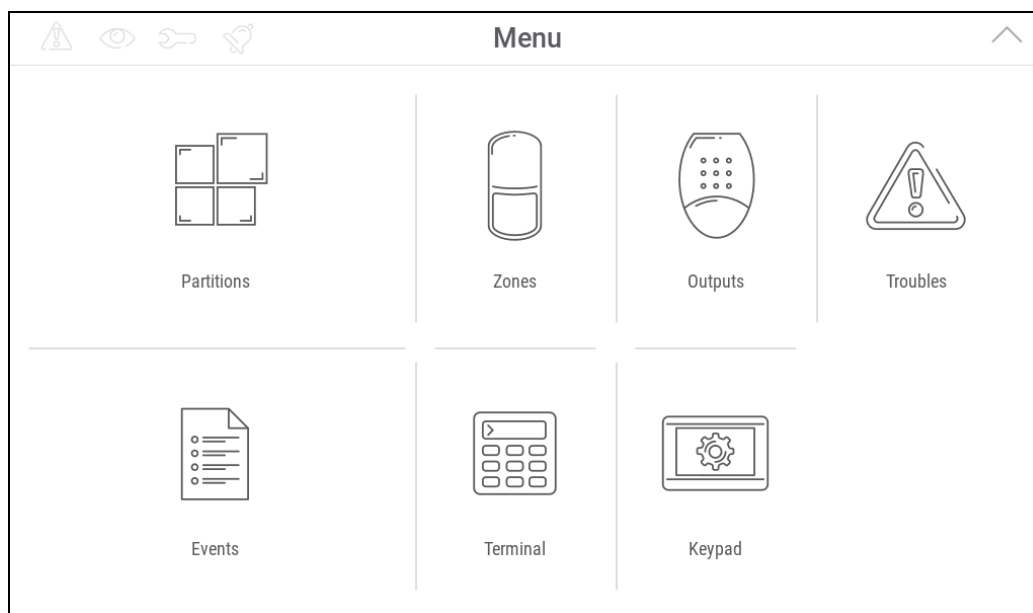

Fig. 9. User menu home screen.
3. Enter the service code (by default: 12345) and tap . The user menu home screen will be displayed (Fig. 9).